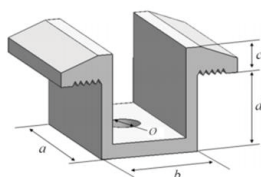
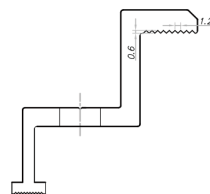

Figure 1
Figure 2 Schematic Diagram of
① Place the PV module on two racks (not provided). Which must be made of stainless steel or be treated with corrosion protection (e. g. hot-dip galvanized treatment). Each PV module needs at least 4 clamps to fix. During installation, please do not let the clamp directly contact the glass and deform the frame, otherwise it will result in PV module damaged.
② Be sure to avoid the shading effect of the PV module due to the shadow formed by the clamp. The drain hole shall not be covered by the clamp. The clamp must have an overlap of at least 10mm with the PV module frame (the section of the clamp can be changed on the premise of ensuring the reliable installation of the PV module).
③ The upper surface of the rack in contact with the PV module frame shall be provided with a groove matched with the M8 bolt.
④ If there is no groove on the rack, a hole of appropriate diameter shall be drilled at the position mentioned above for bolt fixing.
⑤ Make sure that the installation sequence of each clamp is flat washer, spring washer and nut.
⑥ Figure 1 shows the middle mounting clamp, and Figure 2 shows the edge mounting clamp and its cross section view. The size of the middle and side pressing blocks are  $a \geq 50\text{mm}$ ,  $b \geq 26\text{mm}$ ,  $c \geq 5\text{mm}$ ,  $d \geq 28\text{mm}$ ,  $\phi = 9\text{mm}$  and the recommended wall thickness  $\geq 4\text{mm}$ . When the bolts and screws are of Grade 8.8, the recommended tightening torque is 17-23Nm. Consult the installer or rack supplier for specific torque values.
⑦ In order to prevent the module from falling off from the frame after installation, it is recommended to select the clamp with patterned groove structures for edge and intermediate clamp with contact surfaces with frame A. The recommended number of groove structures is about 9, the distance between adjacent grooves is recommended to be about 1.2mm, and the groove depth is recommended to be about 0.6mm, as shown in Figure 2.